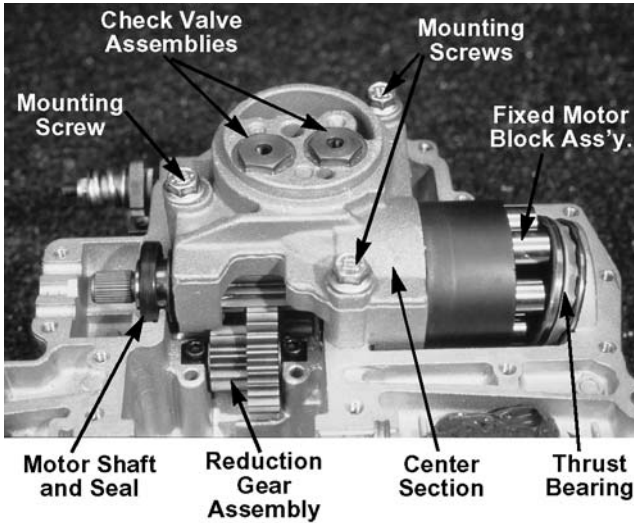

**Figure 6-137**
15. Insure the two washers on the motor shaft are in the correct position. (Located between the upper housing and the center section.) See Figure 6-137.